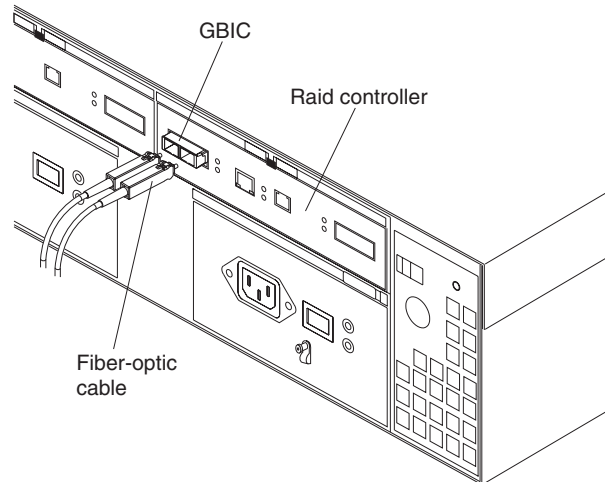

Figure 29. Connecting an LC-SC cable adapter to a GBIC in a FAST200
2. Connect the SC end of an LC-SC cable adapter to the GBIC shown in Figure 29 on page 31.